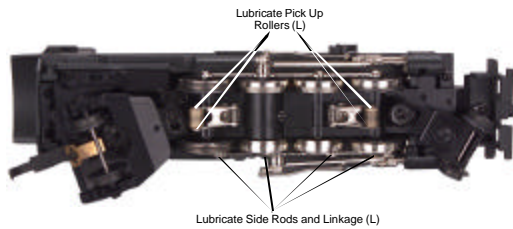

Figure 2. Lubrication Points on the Engine
3. You should lubricate all side rods and linkage components and pickup rollers to prevent them from squeaking. Use light household oil and follow the lubrication points marked “L” in Fig. 2 on p. 8. Do not over-oil. Use only a drop or two on each pivot point.
You should regularly lubricate all side rods and linkage components and pickup rollers to prevent them from squeaking. Use light household oil and follow the lubrication points marked “L” in Fig. 2. Do not over oil. Use only a drop or two on each pivot point.